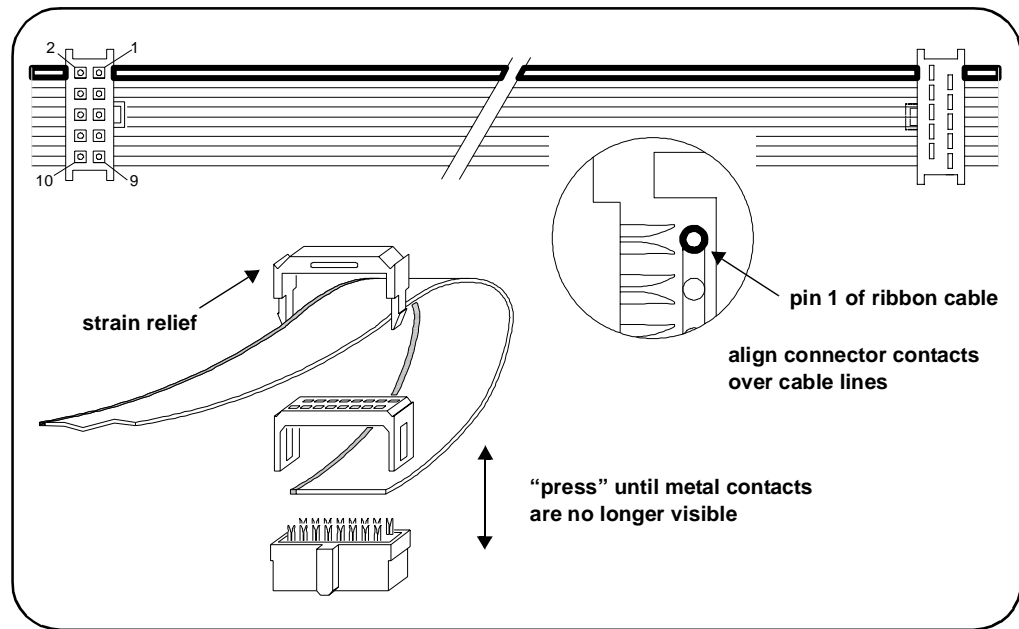

Figure A-4. Y1158A 10-pin to 10-pin Connector Orientation and Cable Routing.
2. Position the ribbon cable connectors as shown in Figure A-4. Route the cable **through** the connectors, noting the location of pin 1 on the cable. By convention, pin 1 is indicated in red (the dark line in the drawing).
6. Fasten the strain relief clamps over the cable and into the ribbon cable connectors as shown in Figure A-4. Remove any excess cable after the clamps are in place.